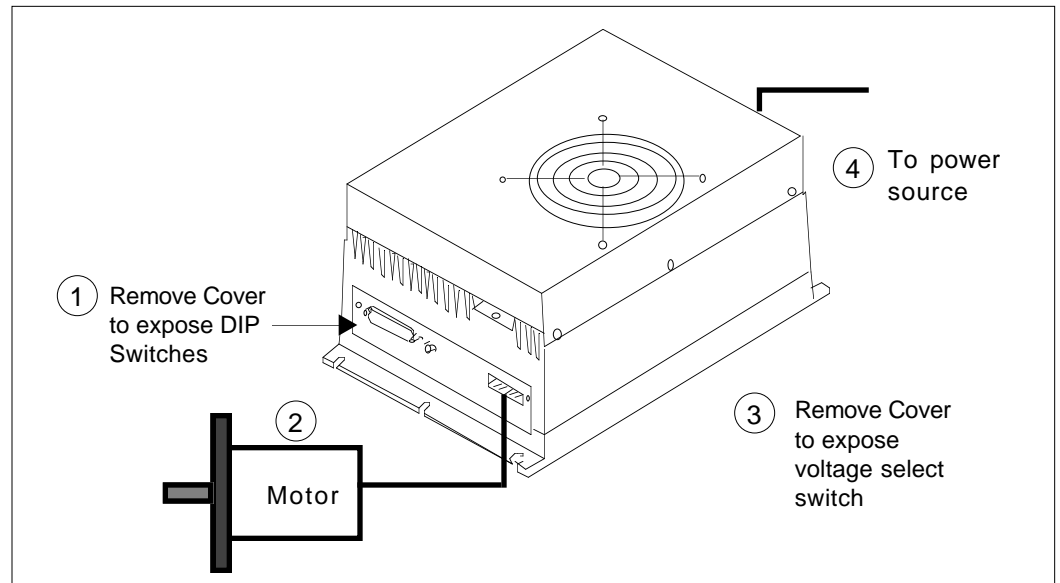

Figure 2-4. Test Configuration
The LN Drive motor is pre-wired in series. Plug the pre-wired motor cable into the motor connector on the drive (refer to Figure 2-4). If you use a non-Compumotor motor, refer to *Chapter 3, Installation* for instructions on wiring the motor to the drive. **Do not connect the motor to the load at this time.**
- ① Plug the cable into the power connector on the drive (refer to Figure 2-4).
- ② Plug the other end of the cable into your voltage source. Observe that the fan is operating and the status LED is green. The motor should rotate CW and then CCW approximately 6 revolutions at 1 revolution per second (rps).
- ③ **To stop the motor, you must unplug the power cable from the power source.**